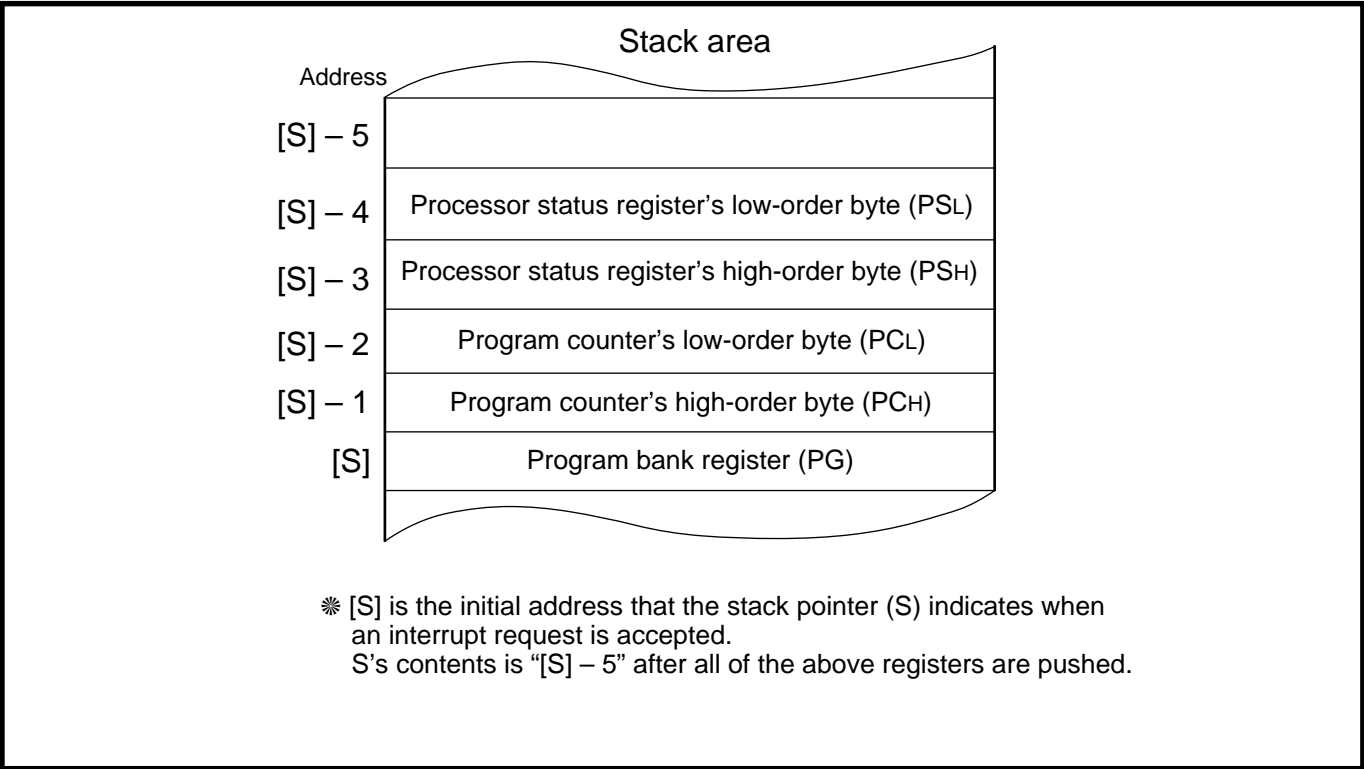

Fig. 2.1.2 Stored registers in stack area
When an interrupt request is accepted, the microcomputer stores the contents of the program bank register (PG) into an address indicated by the contents of S and decrements the contents of S by 1. Then the microcomputer stores the contents of the program counter (PC) and the processor status register (PS). After acceptance of an interrupt request, the contents of S becomes $[S] - 5$. ($[S]$ is the initial address that the stack pointer (S) indicates when an interrupt request is accepted.) (Refer to **Figure 2.1.2.**)